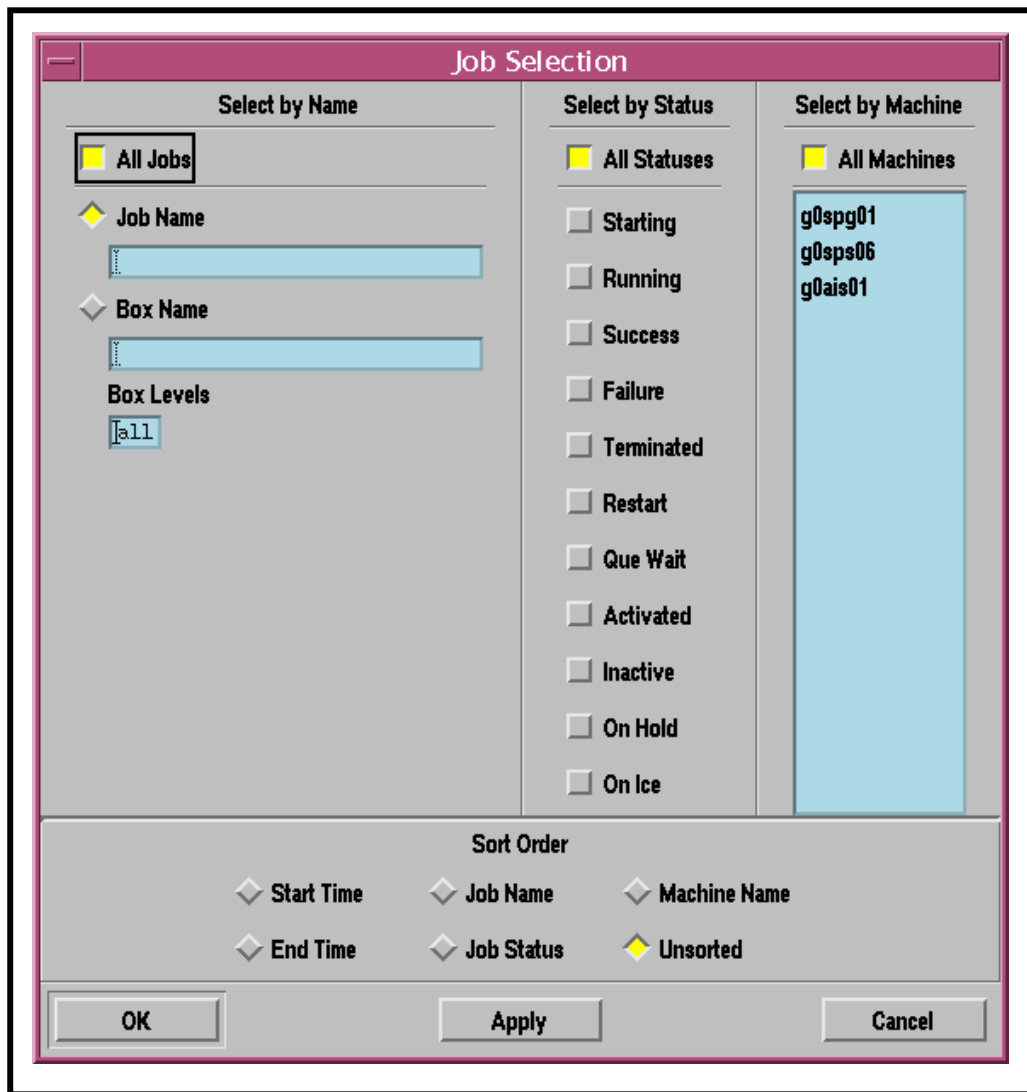

Figure 73. Job Selection GUI
- The **Job Selection** GUI (Figure 73) is displayed.